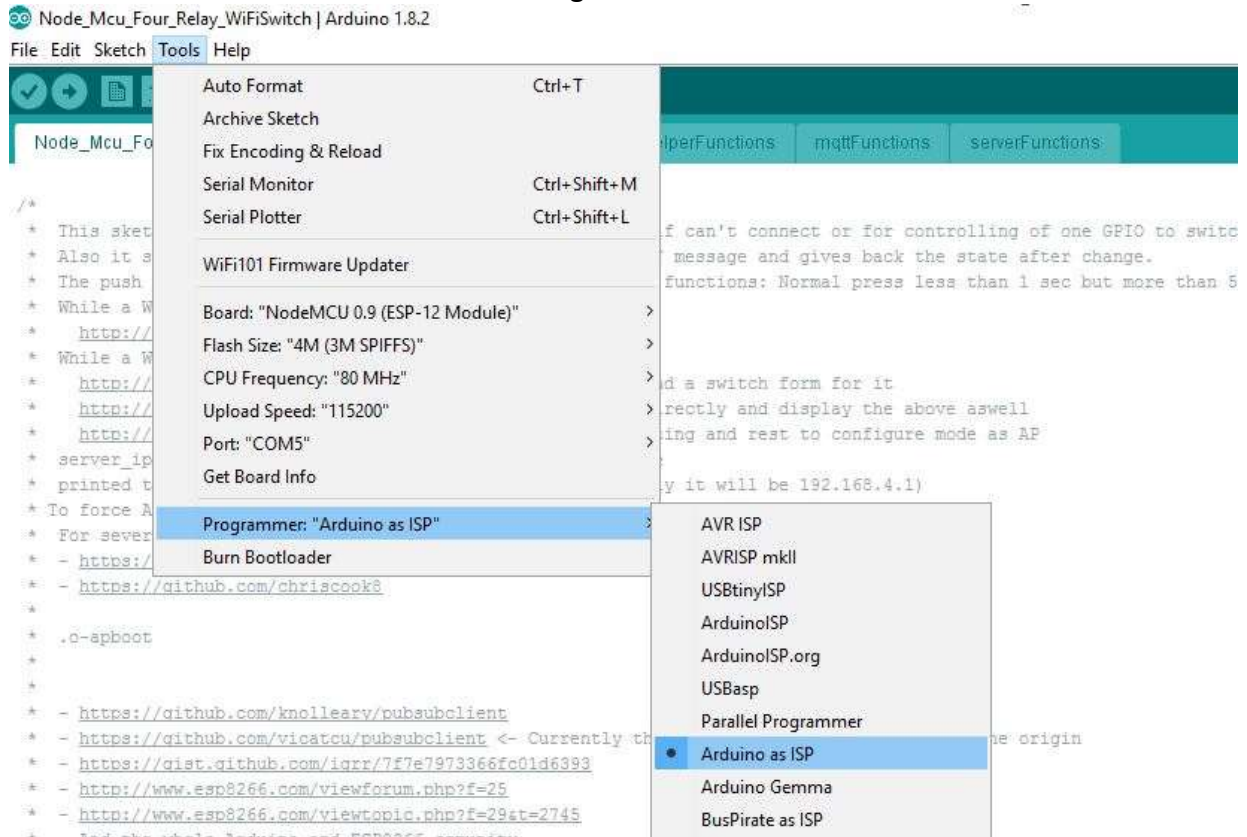

Figure 22: IDE Selection
10. Click on tools tab, move mouse pointer to “Programmer: “Arduino as ISP””, under this click on “Arduino as ISP” to select. Refer to figure 22.